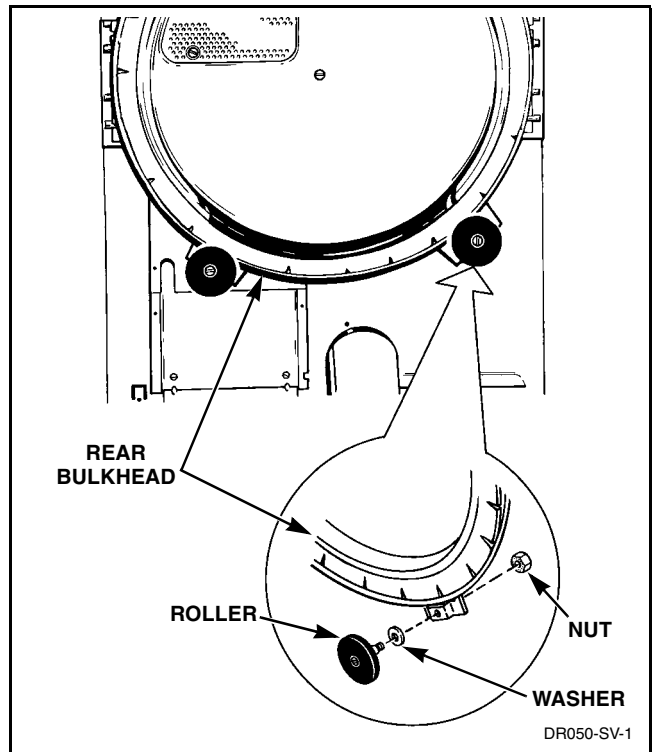

Figure 36
- Refer to *Figure 36* for removal of roller from bulkhead.